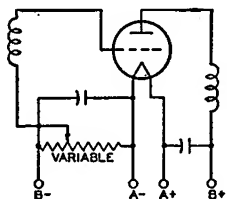
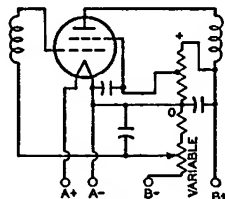

Fig. 69
Fig. 71
Grid-bias variation for the rf and if amplifier stages is a convenient and frequently used method for controlling receiver volume. The variable voltage supplied to the grid may be obtained: (1) from a variable cathode resistor as shown in Figs. 69 and 70; (2) from a bleeder circuit by means of a potentiometer as shown in Fig. 71; or (3) from a bleeder circuit in which the bleeder current is varied by a tube used for automatic volume control. The latter circuit is shown in Fig. 53.